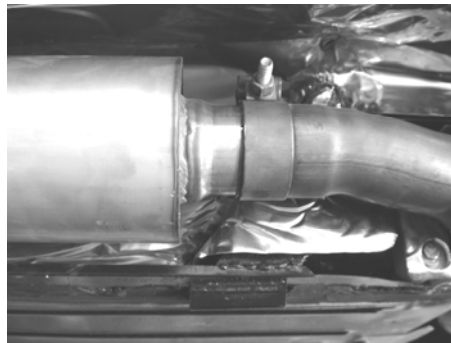

Figure 10
3. Using the original clamps, slide the factory crossover pipe over the outlet of each muffler assembly as shown in figure 10.